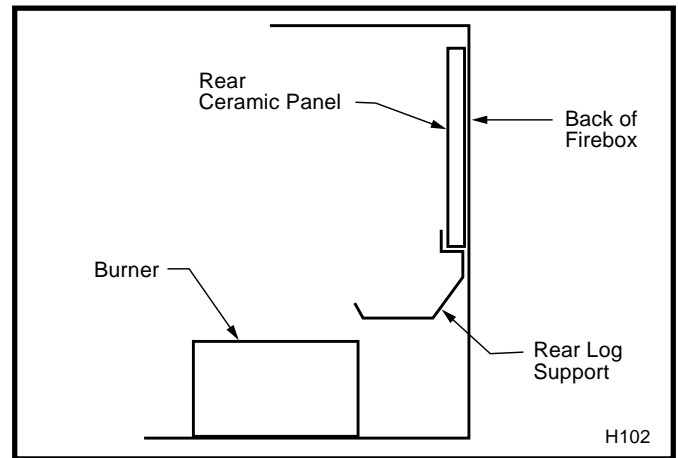

Fig. 77 Rear ceramic panel placement.
4. Place rear ceramic panel in back of unit. (Fig. 77)